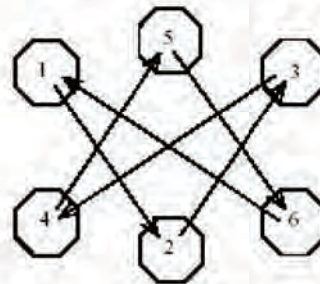

Figure 1
2. Place spacer (if applicable), rear spinner bulkhead, and the hub mount half. The hub and spacer (if applicable) must sit flush on the mounting flange and the rear spinner bulkhead. NOTE: Bolt breakage will occur if not flush. Place special lock washers, under the bolt heads. Each special lock washer works in pairs with the "ramped" sides facing each other. See Position the hub mount half, rear bulkhead, and spacer (if applicable) on the engine flange with the six mounting bolts running through the engine flange. Torque the 6 mounting bolts using a star pattern similar to Figure 1 below. See Propeller Data Sheet for mounting bolt torques.